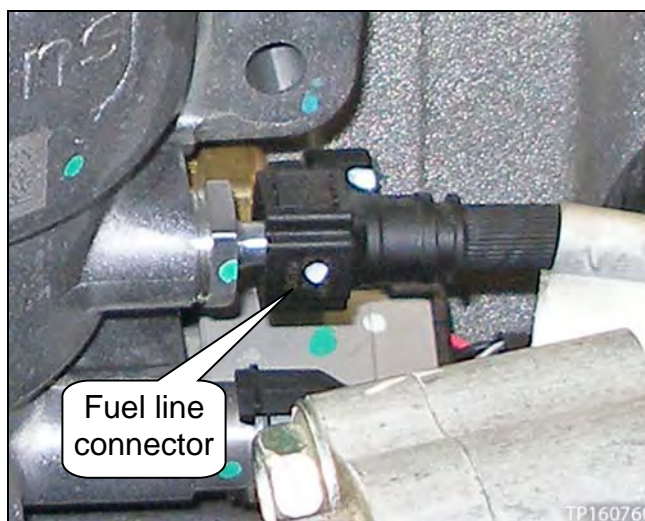

Figure 23
- Do not put side pressure on the fuel injector drain line (drain line). See page 13, Figure 23. If side pressure is applied, the drain line may be damaged.
- To remove the fuel line, pinch the tabs on both sides of the fuel line connector, and then pull off (see Figure 23).